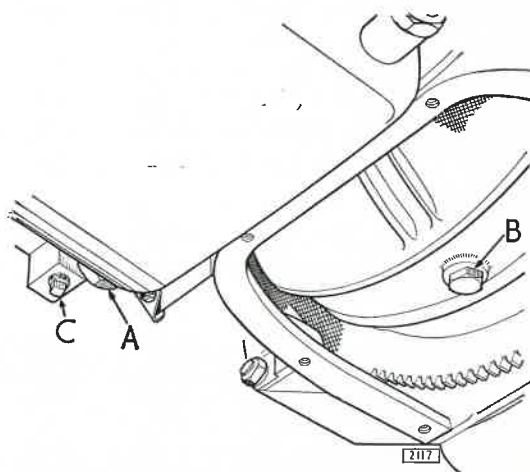

Fig. 54. Automatic transmission drain plug. (The converter housing cover plate has been removed).
4. Remove the transmission oil pan drain plug. (A, Fig. 54).
5. Remove the converter housing cover plate and rotate the converter until the drain plug is in position for draining. Remove the converter drain plug. (B).
6. To facilitate draining, remove the square-headed converter pressure take-off plug from the bottom of the housing attached to the left-hand side of the transmission casing (C).